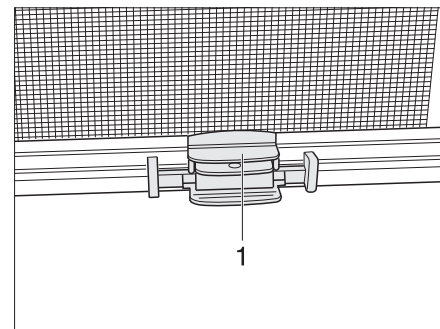

Fig. 50 Blind
- Grip the end rod (Fig. 50,1) of the roller insect screen in the middle and move it to the end rod of the blind.
- Hold the end rod (Fig. 50,1) of the roller insect screen and press the latch.